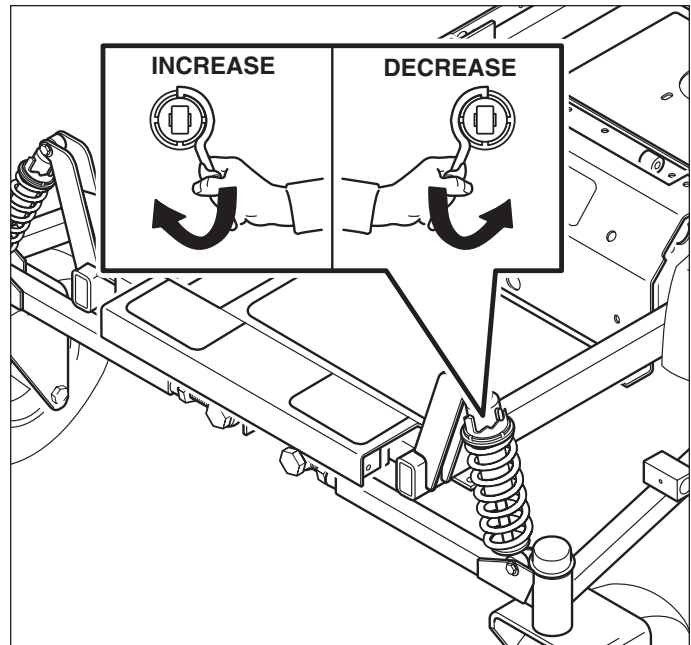

Figure 36. Front Suspension Adjustment
2. See Figure 36. Using the supplied spanner wrench (p/n 22853), insert the tip of the wrench into the notch in the pre-load adjuster. While holding the wrench in place with one hand, turn **CLOCKWISE** to increase the pre-load, turn **COUNTER-CLOCKWISE** to decrease the pre-load. Make sure both shocks are set to the same amount of pre-load.